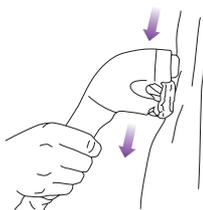

fig. 12
- 5 Begin steaming the fabric, upholstery or garment in an up and down motion pressing the Wrinkle Eraser directly onto the fabric. (Fig. 12)